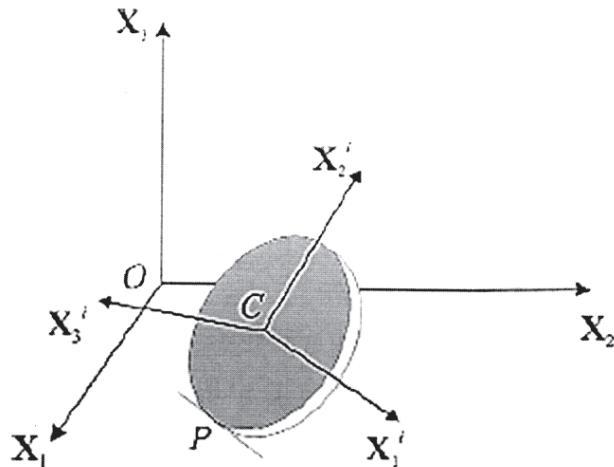

Figure 1b
b) For the rolling disc shown in the Figure 1b, Discuss the constraints applied. [9]